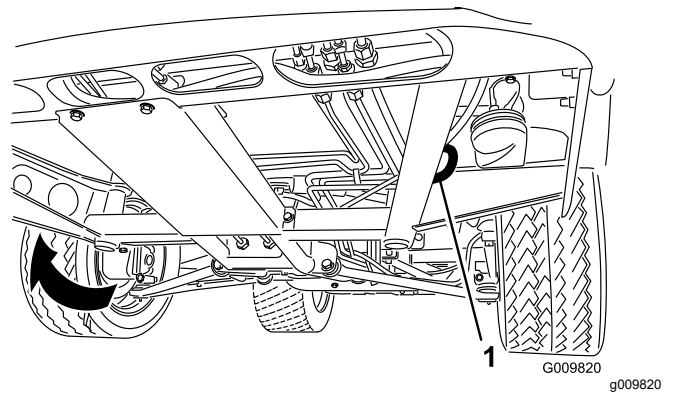
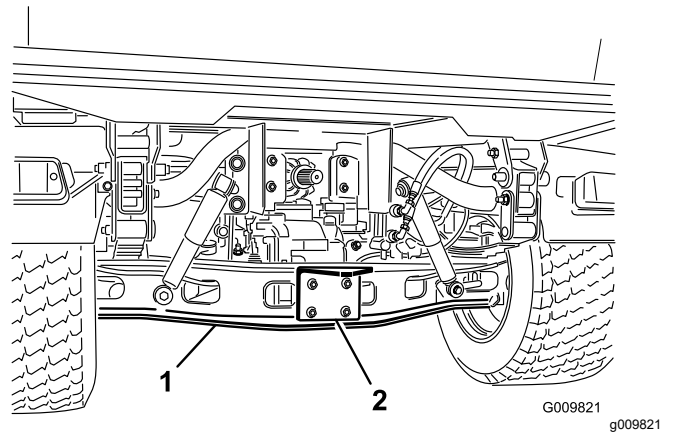

Figure 19
Figure 20
Refer to Figure 19 and Figure 20 for the tie-down locations on the machine.
1. Affix a tow line to the tongue at the front of the frame of the machine (Figure 19).